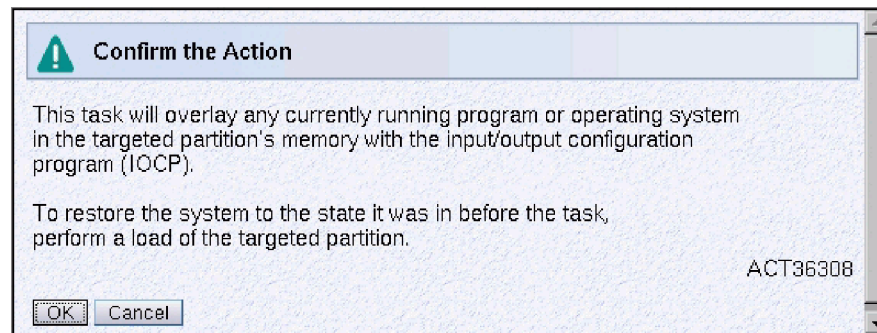

Figure 2-6. Confirm the Action Window
3. The Confirm the Action window (see Figure 2-6) warns you that any processor program or operating system in the targeted logical partition will be overlaid with the stand-alone code to perform these functions.